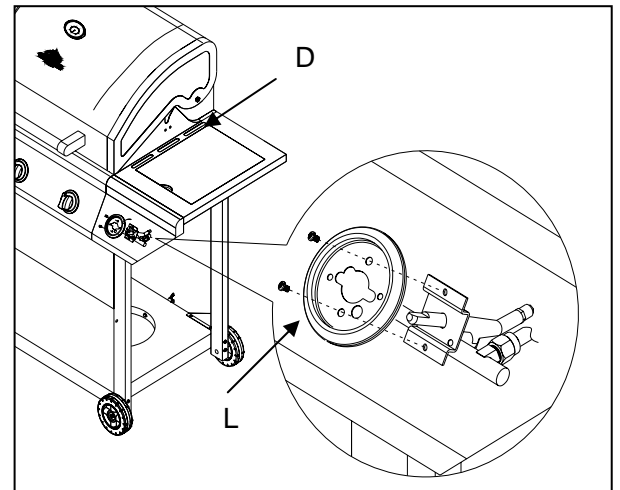

Fig. 15
- b) Insert Side Burner Control Knob (M) onto the valve stem and tighten it. As shown in Fig. 15.